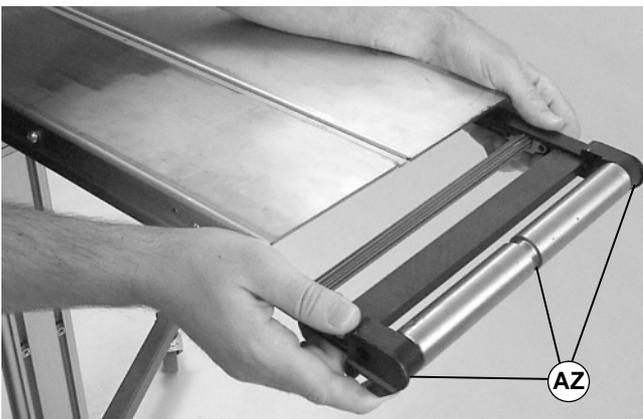

Figure 40
3. Remove tail assembly (AZ of Figure 40).